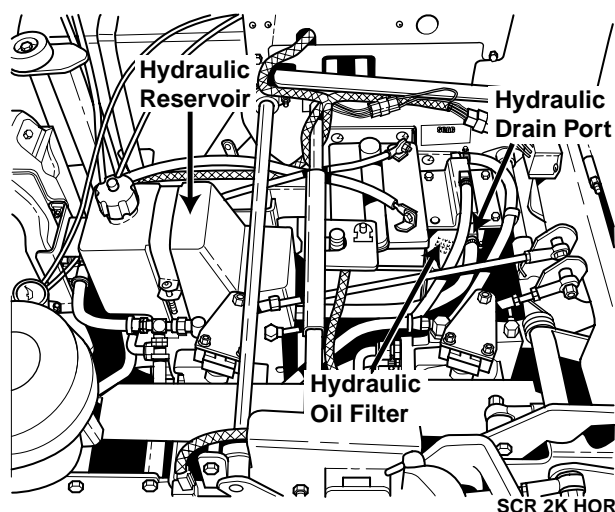

Figure 7-2 Hydraulic Oil Reservoir
2. Place a suitable container under the hydraulic oil filter. Remove the cap from the tee installed in the hydraulic oil filter head. (Figure 7-2). Allow the fluid to drain into the container and properly discard it.
3. Remove the oil filter element (Figure 7-2) and properly discard it. Fill the new filter with clean oil and install the filter. Hand tighten only.